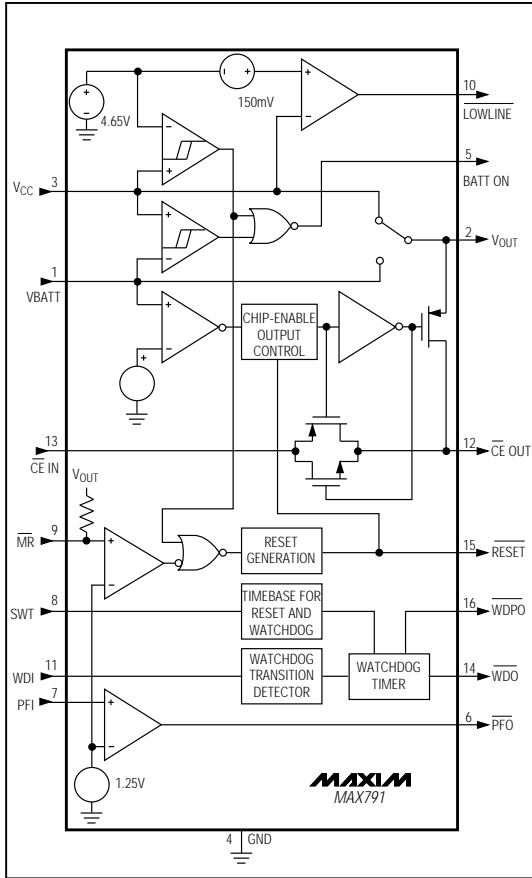

Figure 1. Block Diagram
Many  $\mu\text{P}$ -based products require manual-reset capability, allowing the operator or test technician to initiate a reset. The Manual Reset Input ( $\overline{\text{MR}}$ ) can be connected directly to a switch, without an external pull-up resistor or debouncing network. It connects to a 1.25V comparator, and has a pull-up to  $V_{\text{OUT}}$  as shown in Figure 1. The propagation delay from asserting  $\overline{\text{MR}}$  to  $\overline{\text{RESET}}$  asserted is 4 $\mu\text{s}$  typical. Pulsing  $\overline{\text{MR}}$  low for a minimum of 15 $\mu\text{s}$  resets all the internal counters, sets the Watchdog Output ( $\overline{\text{WDO}}$ ) and Watchdog-Pulse Output
The MAX791 provides internal gating of chip-enable (CE) signals, to prevent erroneous data from corrupting the CMOS RAM in the event of a power failure. During normal operation, the CE gate is enabled and passes all CE transitions. When reset is asserted, this path becomes disabled, preventing erroneous data from corrupting the CMOS RAM. The MAX791 uses a series transmission gate from the Chip-Enable Input ( $\overline{CE}$  IN) to CE OUT (Figure 1).